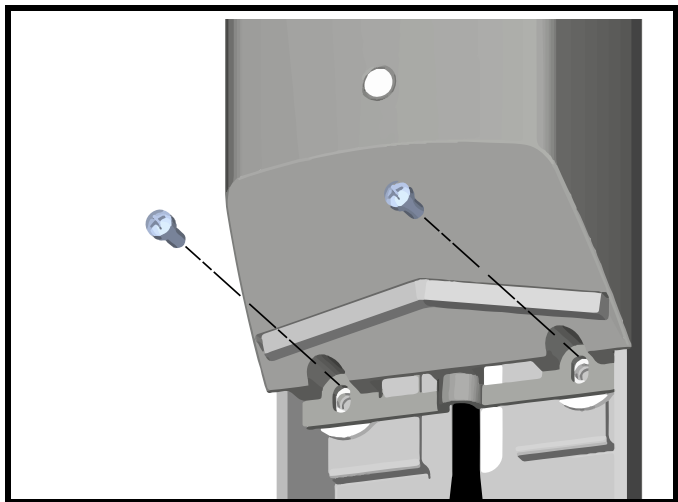

Fig. 23
- 3) Unscrew the two fasteners (Phillips #2) at the lower end of control box cover (see Fig. 23).